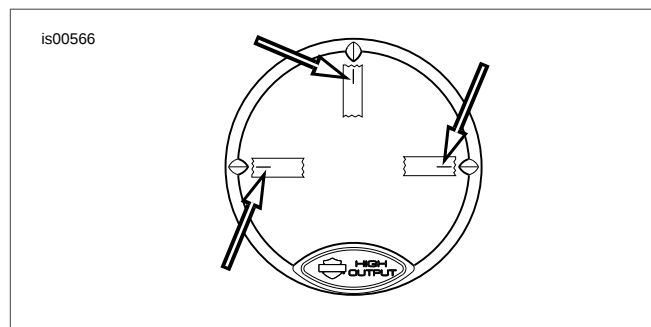

Figure 7. Trim Ring Installation
4. See Figure 7. Apply masking tape directly to the speaker grille near the three points at the 3, 9 and 12 o'clock positions. Do not tape the trim ring to the speaker grille.